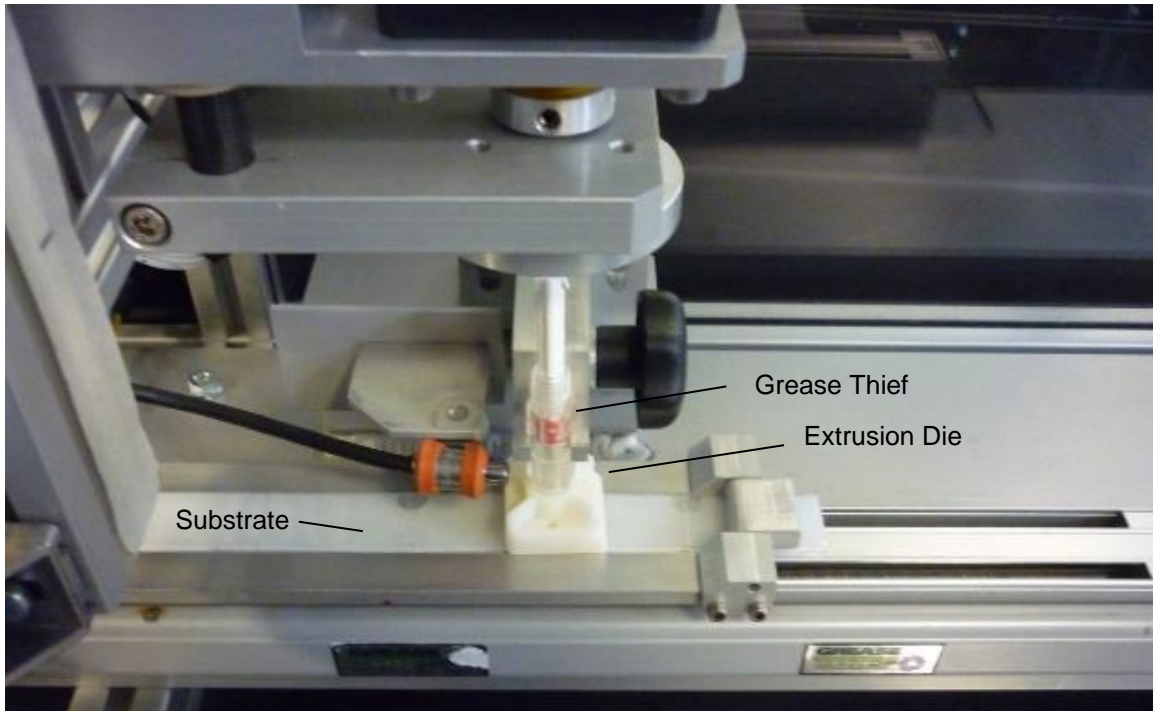

Figure 16
10. Take the sample and place it in the position bracket, making sure that the narrow slot opening of the die faces the exit direction (right) as shown in the Figure 16 below. Again, avoid touching the areas that the grease makes direct contact with (such as the exit slit on the die) to prevent cross contamination of the sample.